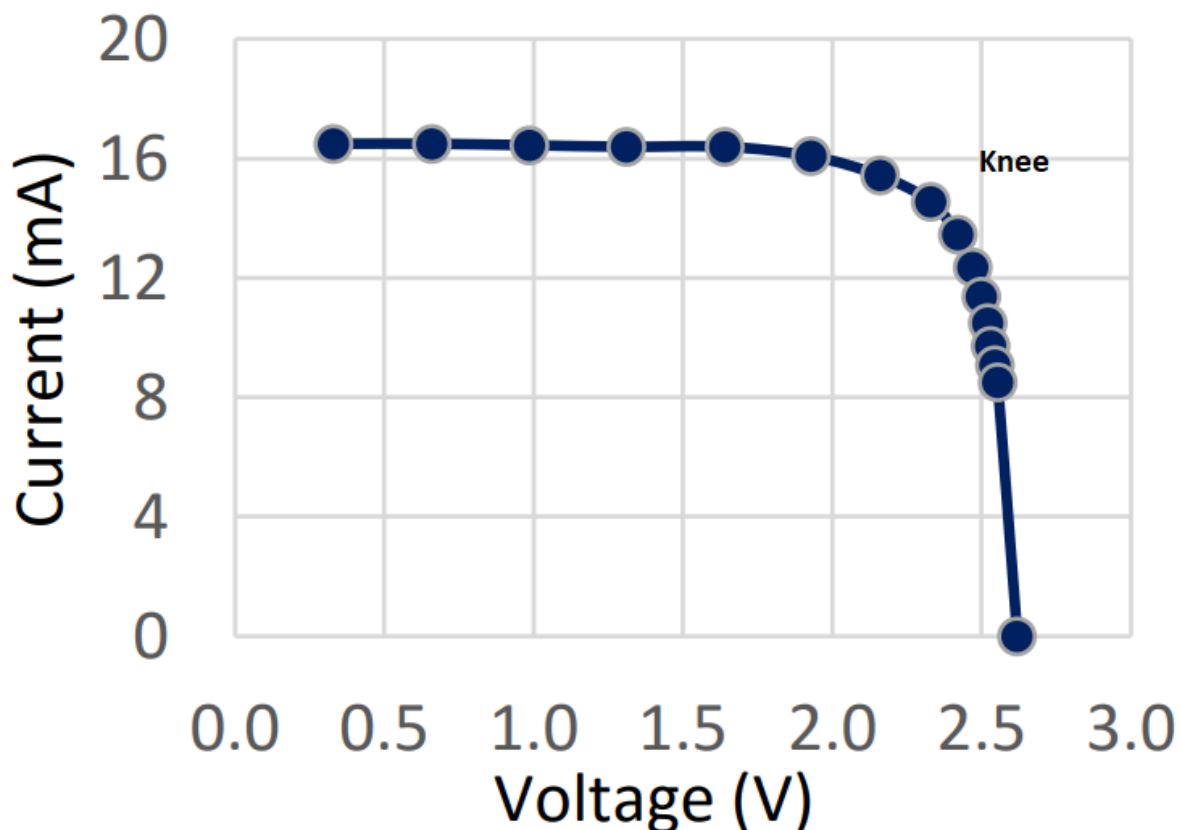

Figure 8 - TrisolX Solar Wing I-V curve - TrisolX
Solar Panel Basics: Solar panels are Photovoltaic (PV) junctions which convert light into energy. Solar panels primarily function as current sources up to a certain voltage. Figure 8 shows the typical shape of a Current vs. Voltage curve for a solar panel. The power output of the cell will be the area of a rectangle under the curve with one corner on the origin and the other at some point on the curve. The maximum power will be produced at some point on the knee (2.33 V and 14.6 mA for this curve, producing 34 mW) which is the ideal operating point. Two other useful numbers are the Open Circuit Voltage, which is the highest voltage the cell can produce under no load and under full illumination (2.62 V for the example cell) and the Short Circuit Current, which is the maximum current produced when the cell is shorted and under full illumination.